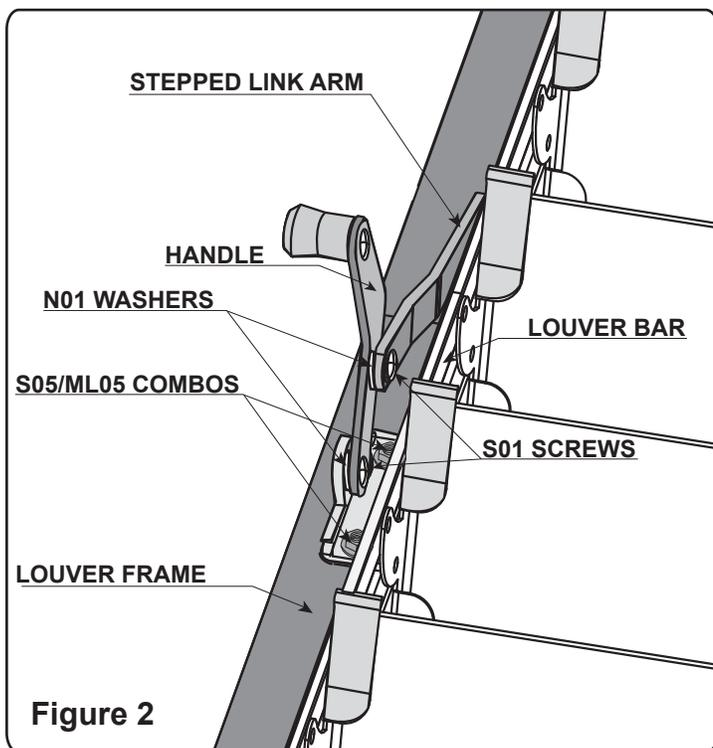

Figure 2
2. Dismantle the handle on the louver window by removing the handle and freeing the stepped link arm. You will need to unscrew the screws shown in **Figure 2**. Place screws and washers in a safe location for the installation of the automatic opener.